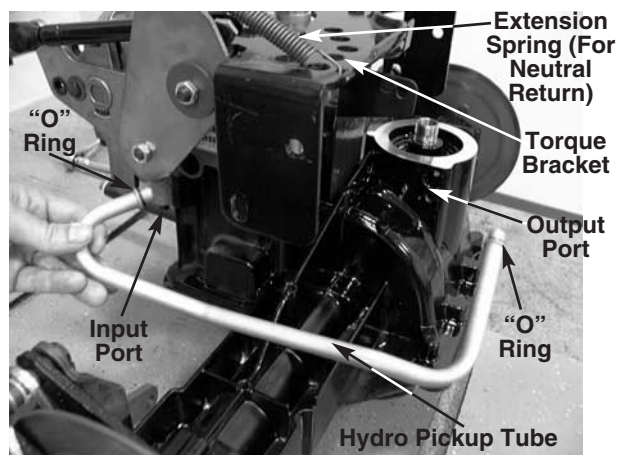

FIGURE 5.
7. Remove the hydro pickup tube and inspect the tube for any contamination that would restrict the hydro oil flow. See figure 5.
8. Inspect the "O" ring at each end of the hydro pickup tube. If damaged, replace. See figure 5.
9. Inspect the output and input ports where the hydro pickup tube clamps on. See figure 5.
10. Remove the extension spring from the torque bracket. See figure 5.